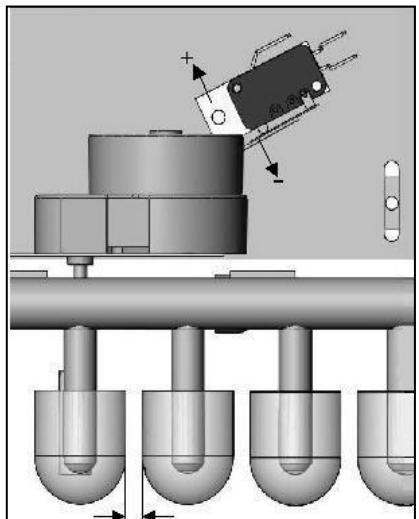

Fig. 6.3: Setting the ice cube thickness
**CAUTION:** At the maximum setting, ensure that a minimum distance of approx. 1.5 to 2 mm remains between the individual finished ice cubes (see Fig. 6.3). Otherwise there is a risk of the machine producing an ice plate, which would lead to malfunction.